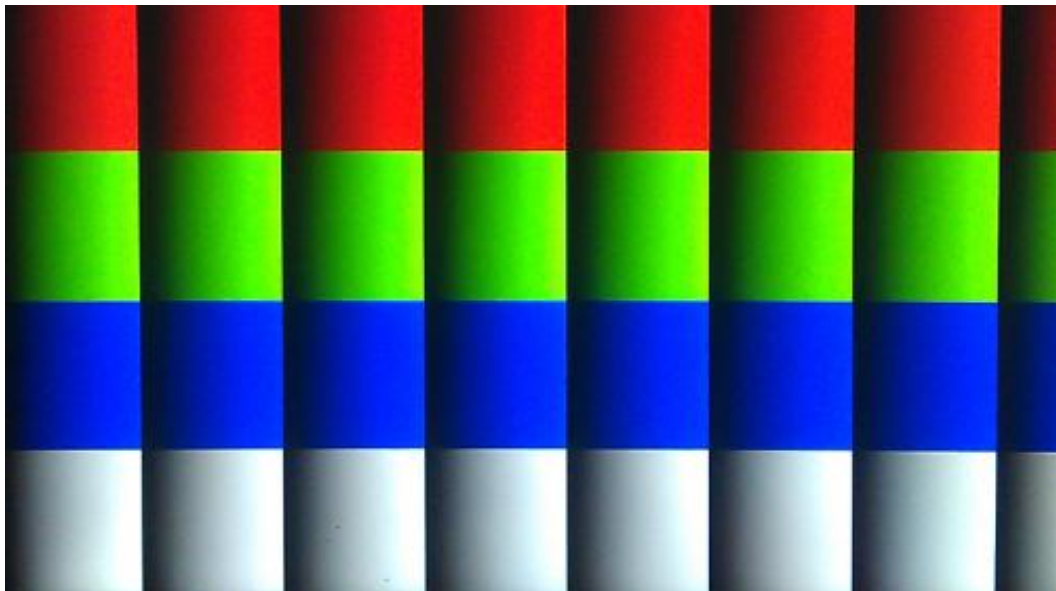

Figure 2-11 The video pattern in the HDMI TX demonstration
- 1080p@60 color bar should be visible on the monitor, as shown in **Figure 2-11**.